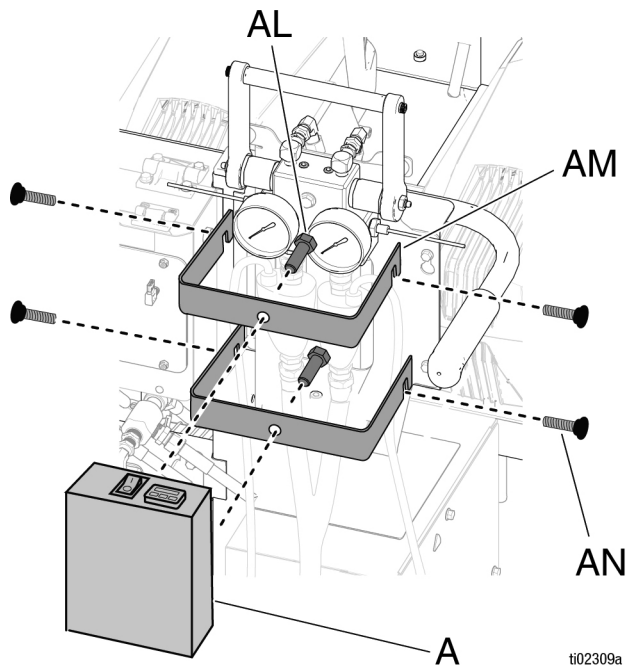

FIG. 7: Mount Control Module
2. Using installation kit 2006565, mount the Control Module (A) to the E-Mix XT. See FIG. 7.
3. Thread in thumb screws (AN) on recirculation manifold bracket leaving about 1/4" gap on each screw from the sheet metal surface.